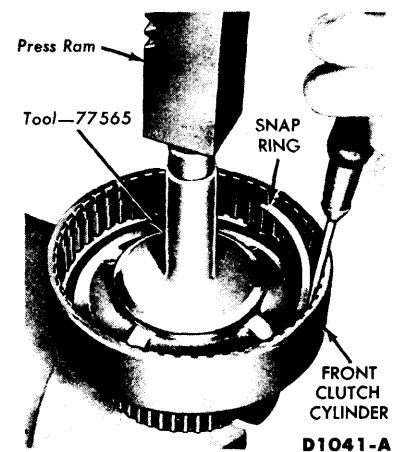

FIG. 31—Front Clutch Snap Ring Removal or Installation
4. Place the front clutch spring compressor on the release spring, position the clutch drum on the bed of an arbor press, and then compress the release spring with the arbor press until the release spring snap ring can be removed (Fig. 31).
10. Position the release spring in the clutch cylinder with the concave side up. Place the release spring compressor on the spring, and compress the spring with an arbor press. Then install the snap ring as shown in Fig. 31. **Make sure the snap ring is fully seated in the groove.**